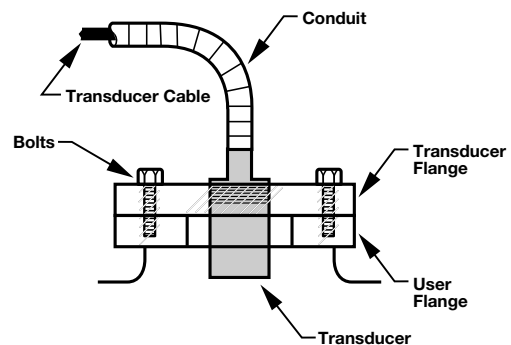

Figure 11
4. Carefully pull the connecting cable attached to the transducer through the conduit to the transmitter. Refer to Figure 11. This cable will be connected in the "Transducer Wiring" section on page 10.